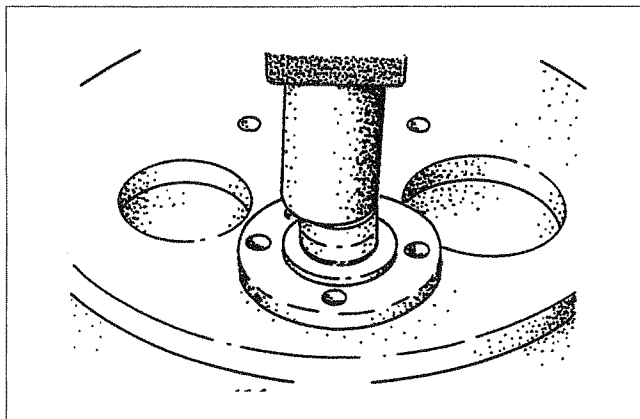

Figure 19
1. Using the appropriate size seal driver, install the seal (Figure 19).